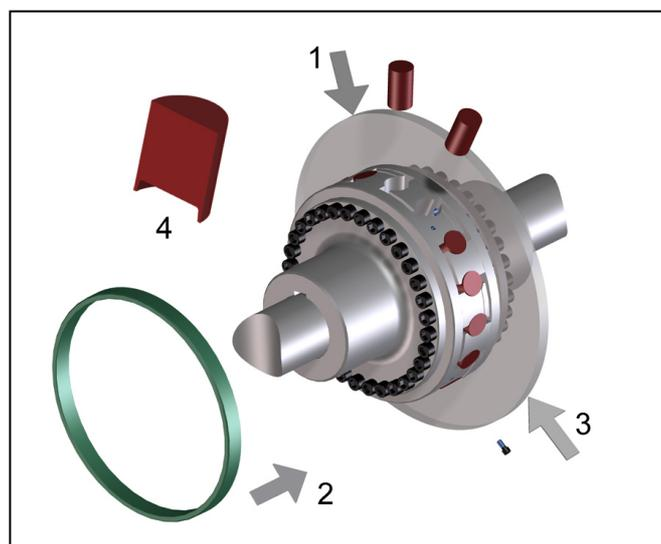

Fig. 13
- First, remove the retaining screws (Fig 13, Pos. 3) and then the retaining ring (Fig 13, Pos. 2).
- Remove the buffers (Fig 13, Pos. 1).
- Mount new buffers of correct size with the **hollow pointing inwards** (Fig 13, Pos. 4).
- Push on the retaining ring until it contacts the claw ring face, so that the ring is seated centrally above the elastic buffers (Fig 13, Pos. 2).